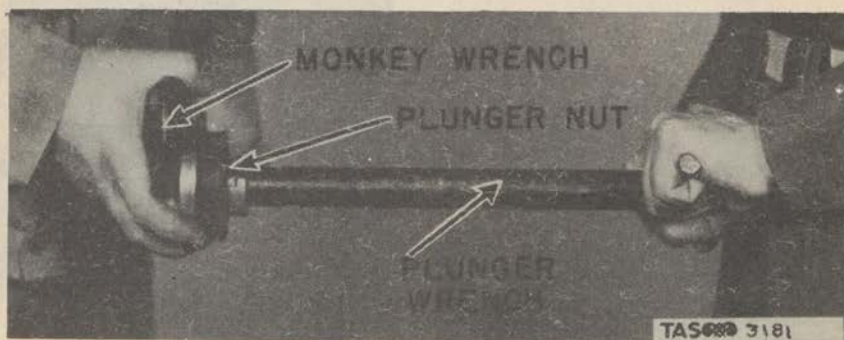

Figure 86. Disassembly of Plunger Packing (Cup) Assembly (1).
(4) Disassemble the plunger packing (cup) assembly. (Figs. 86, 87, 88, 89)